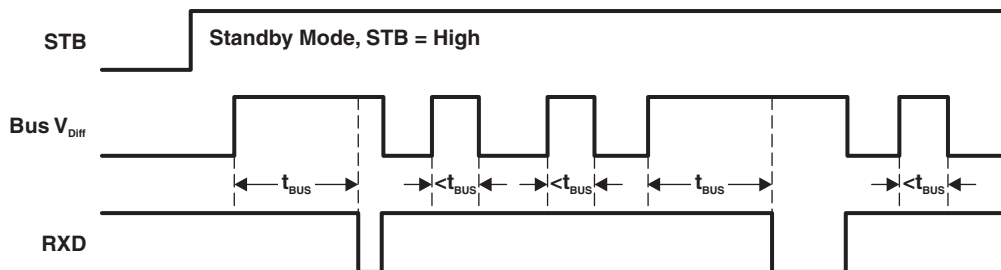
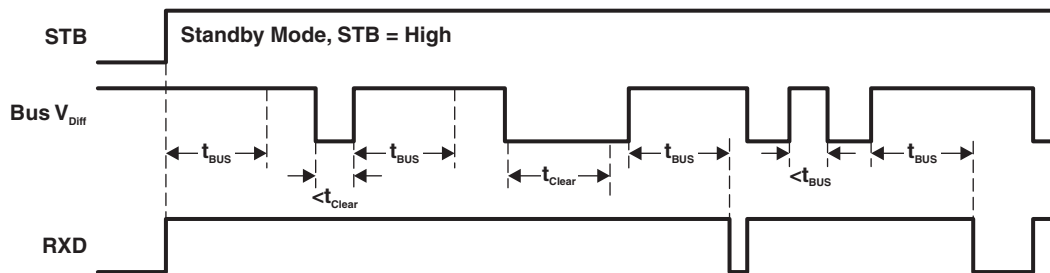

Figure 18. HVDA551 RXD Wake-Up Request With No Bus Fault Condition
Figure 19. HVDA551 RXD Wake-Up Request Lockout During Bus Dominant Fault Condition
(2) See Figure 18 and Figure 19 for operation of the low-power wake-up receiver and bus monitor for RXD wake-up request behavior and Table 5 for the wake-up receiver threshold levels.
(3) When V_{IO} is undervoltage, the device is forced into standby mode with respect to the CAN bus, because there is not a valid digital reference to determine the digital I/O states or power the wake-up receiver.
(1) Mirrors bus state: LOW if CAN bus is dominant, HIGH if CAN bus is recessive.
- (1) H = high level, L = low level, X = irrelevant, ? = indeterminate.
(2) While STB is high (standby mode) the RXD output of the HVDA551 functions according to the levels above and the wake-up conditions shown in Figure 18 and Figure 19.